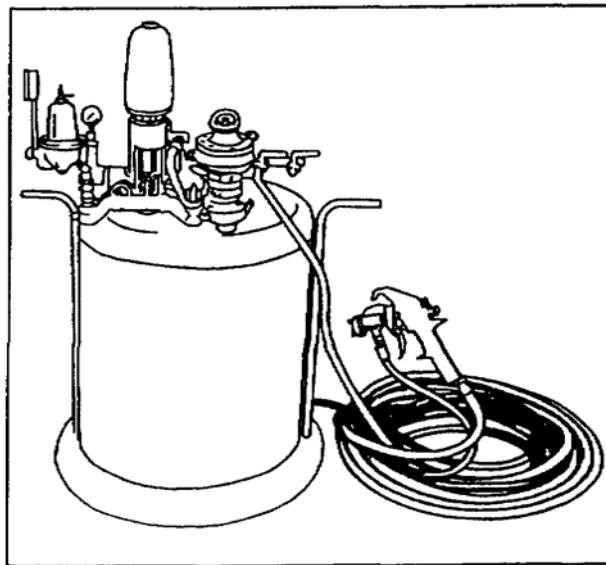

Figure 3-43. Airless spray system
a. In an airless spray system (Figure 3-43), the spray is created by forcing paint through a restricted orifice at very high pressure. Paint atomization occurs without the use of air jets, thus the name airless spray. Liquid pressures from 1,900 to 2,600 pounds per square inch are developed in special air-operated, high-pressure pumps and delivered to the gun through a single hose line.
c. The system shown in Figure 3-43, page 3-35, is operated by compressed air; however, some airless models and the hot sprayer are electrically operated. The generation of static electricity and proper daily maintenance are two primary concerns when airless-spray systems are used.
(1) Static electricity. It is possible for sparking to occur between a gun and the object being sprayed; this is due to a static-electrical potential that is generated by the high pressure necessary for airless spraying. Sparking can result in explosion and/or fire. To prevent sparking, ensure that both the object being sprayed and the airless equipment are grounded. Do this by attaching a static wire to ground. If the hose does not contain a static-electrical conductor, a static wire must be attached from the spray gun to a ground rod.
(2) Daily maintenance. Under no circumstances should paint be permitted to set up, settle out, or dry within the pump. Perform routine maintenance and cleaning daily by using the following steps: